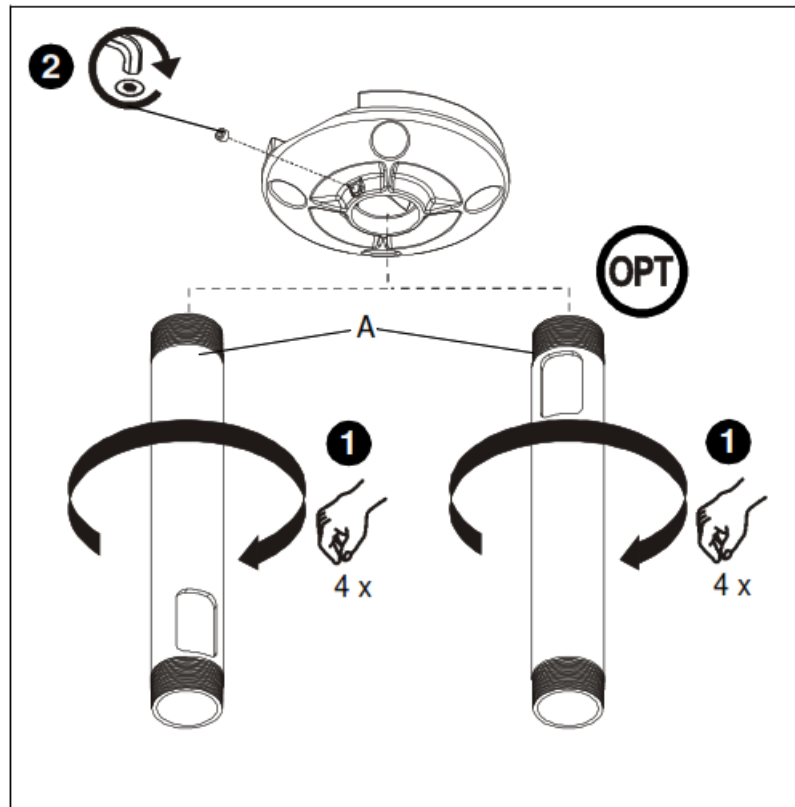

Figure 1
1. Install 1-1/2" NPT threaded column (A) into plate/adapter (See Figure 1). Securely tighten column.
- Ensure column (A) engages four full threads into the plate/adapter.
2. Secure column (A) by tightening set screw in plate/adaptor (See Figure 1).